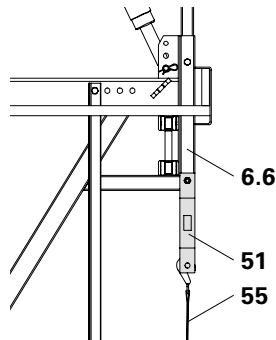

Fig. B1.30
1. Attach Tension Belt Connector CB (51) using Bolt M16 x 100, SW 24 to the vertical tube of the Climbing Bracket CB 160 (6.6).
2. Mount Tension Belt L = 5.70 m, 2.5 t (55) to the bolts using the end of the belt without a turnbuckle. (Fig. B1.30)